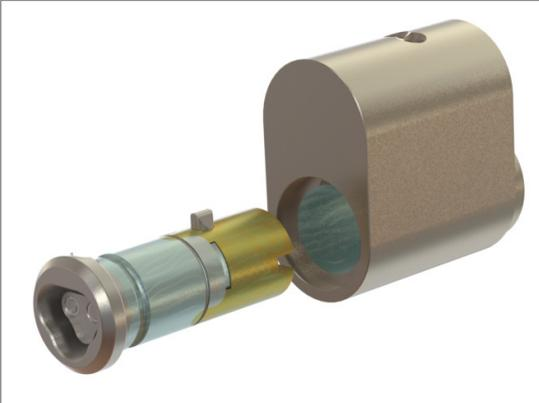

Figure 1: Remove Core Assembly
1. Remove the core assembly from the lock shell. See Figure 1.